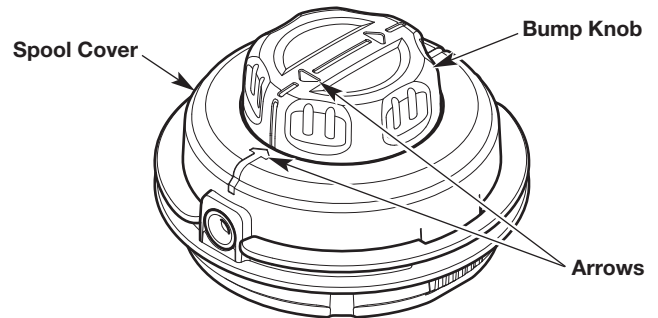

Fig. 16
- Turn the bump knob to align the arrows on the bump knob with the arrows on the spool cover (Fig. 16).